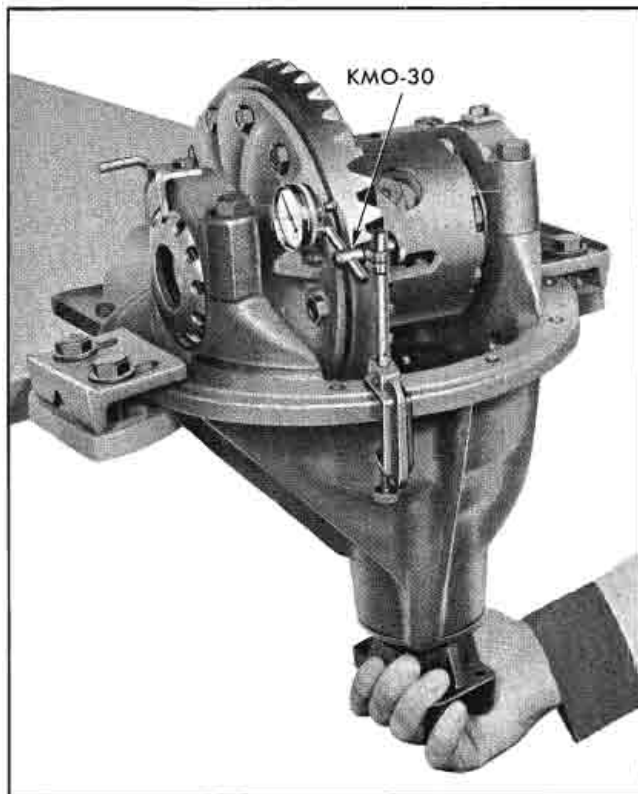

Fig. 4-70 Checking Ring Gear Run-out with KMO-30 Set
10. Position indicator KMO-30 at side of ring gear and check ring gear run out. Run out should not exceed .001" (Fig. 4-70).